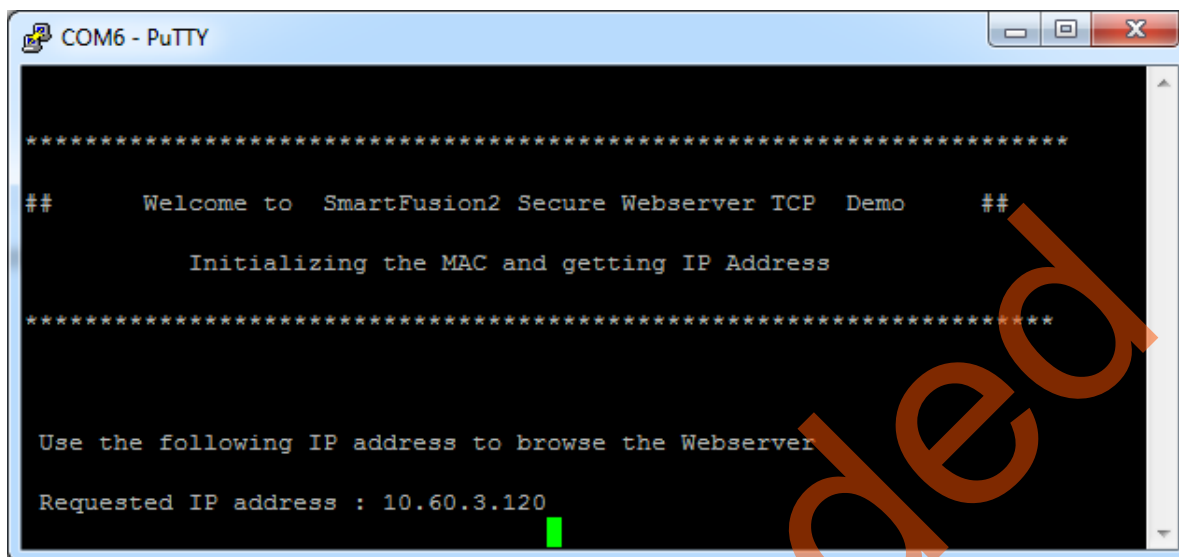

Figure 17 • PuTTY with IP Address
21. A welcome message with the dynamic IP address is displayed in the serial terminal emulation program as shown in Figure 17.